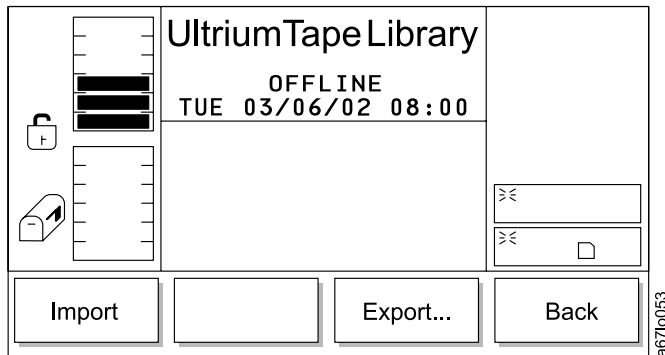

Figure 126. I/O Station Submenu
If **OK** is selected from the Command Completed screen, the I/O Station Submenu displays (see Figure 126 on page 114).
- If **Cancel** is selected, the I/O Station Submenu displays (see Figure 126 on page 114).